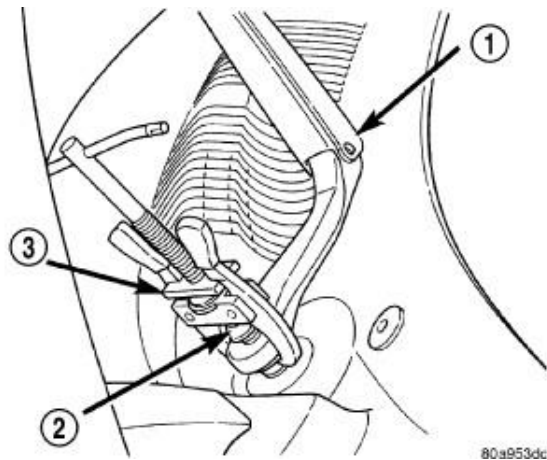

Figure 13 – Battery Terminal Puller
28. If necessary, use a suitable battery terminal puller (3) to disengage the wiper arm (1) from the wiper pivot shaft (2) (Figure 13).